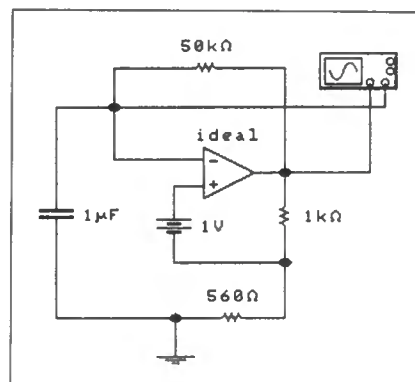

Fig. 6.16 Circuit for Assignment 6.3.
1. Connect the circuit shown in Fig. 6.16. Once again, the 1V battery has been included in order to unbalance the circuit so that oscillation reliably commences.